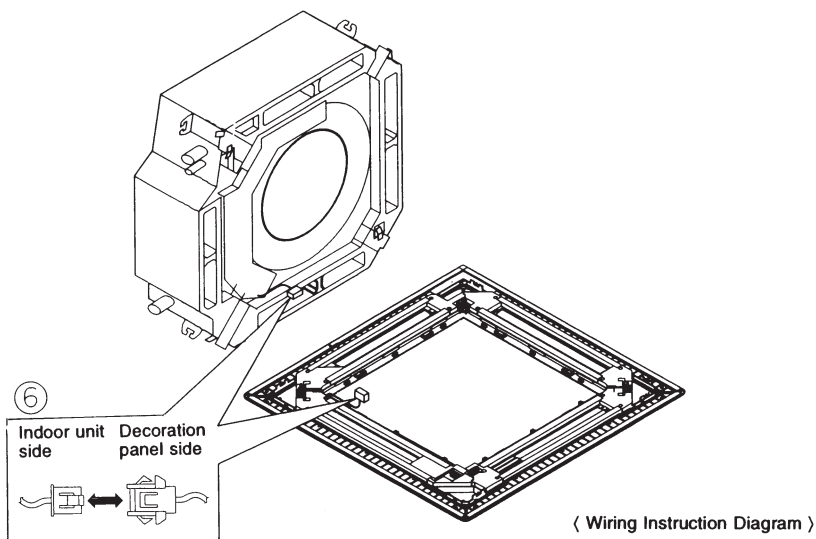

Fig. 7
(3) Wiring of the decoration panel (Refer to Fig. 7)
- ⑥ Connect the connectors for the louver motor lead wire installed on the decoration panel.